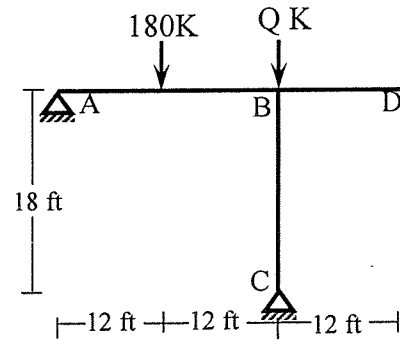

Fig.2
2. Analyze the frame shown in **Fig.2** by Force Method and determine the support reactions. Consider the horizontal reaction at **A or C** as redundant. [EI=Constant and Q=Last digit of your Roll (ID) +40]. [16]